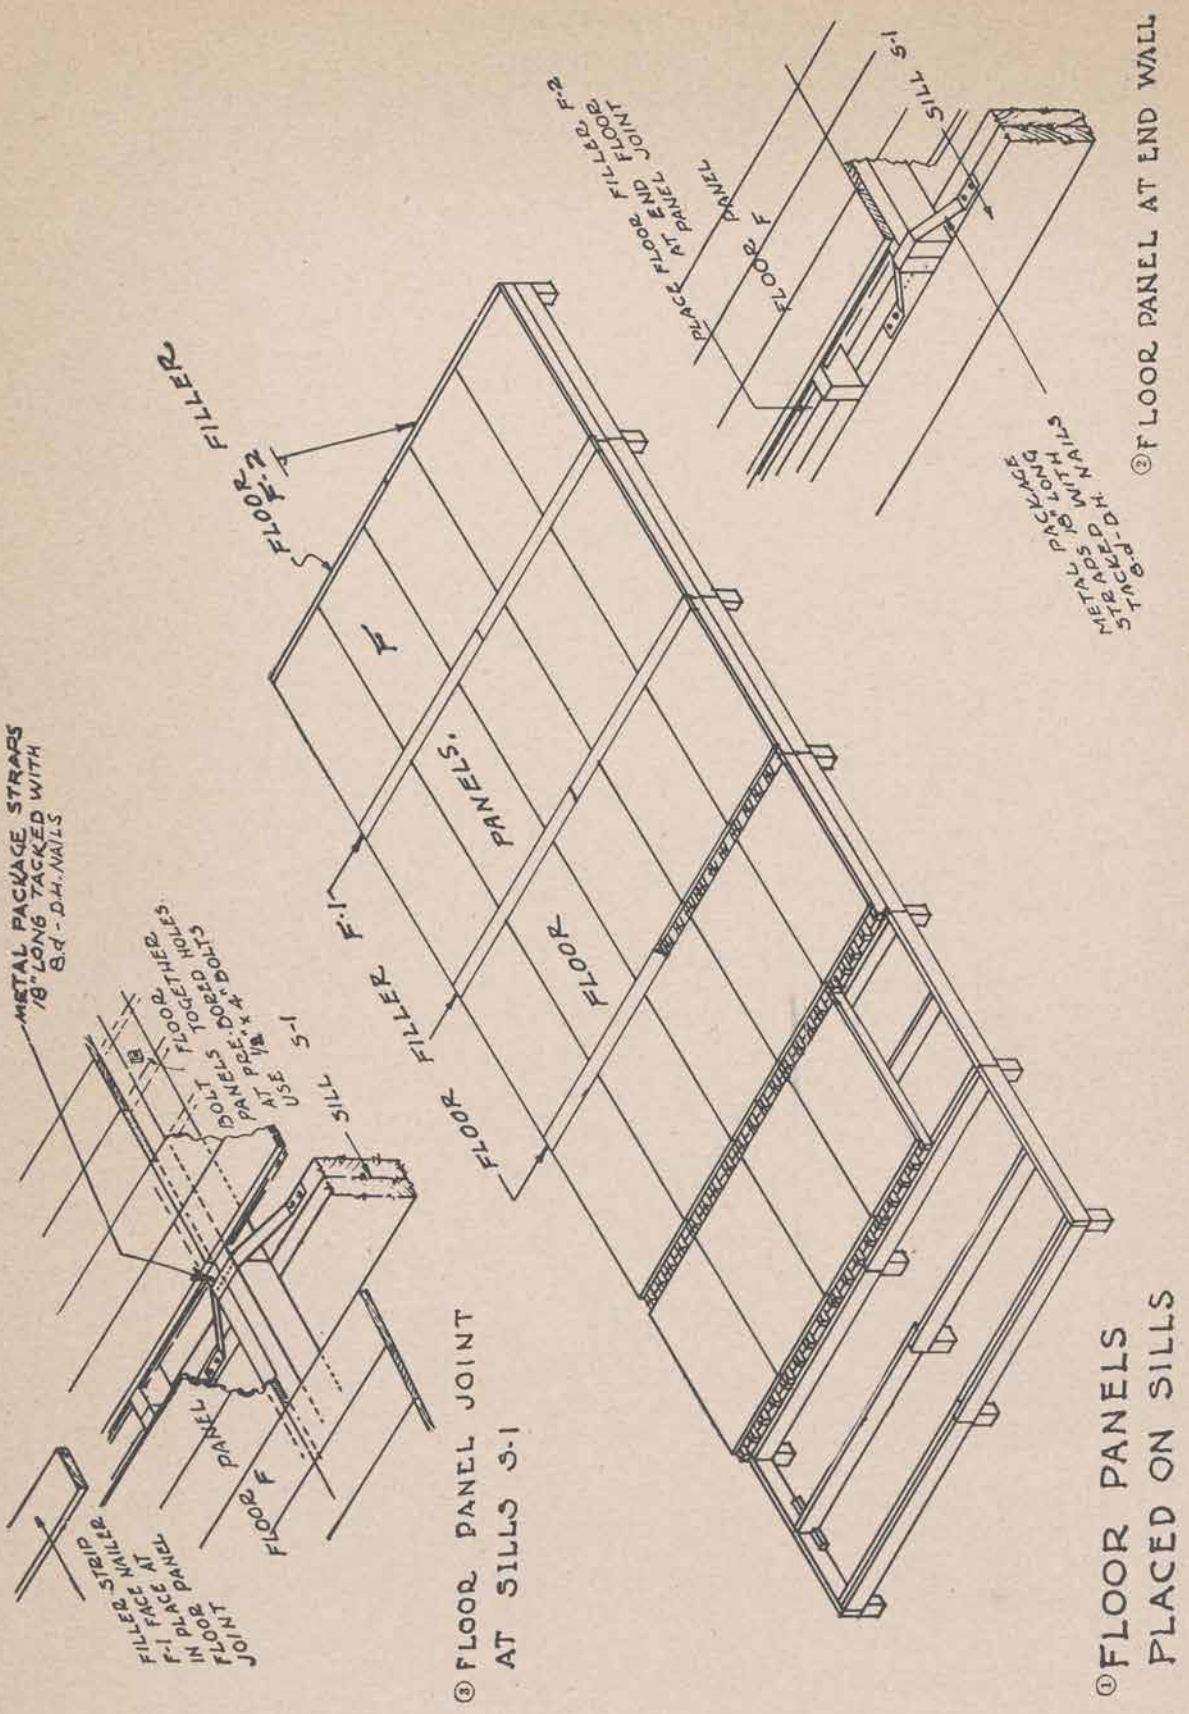

Figure 8. Floor panels.
4. Floor (refer to fig. 8)
a. Start placing floor panels across building, working from one corner of the building and extending full width of building. Bolt these sections together using 4-inch bolts with washers. After this 8- by 20-foot section has been bolted together, shift section in place. The sides of the section must be flush with the sills. The ends of the floor joists must be flush with end sills and lap over one-half of the center sill. Assemble additional floor sections. Shift into place so that the ends of the floor joists on the first section and ends of the floor joists on the second section meet. All other sections are assembled and placed in same manner. Tie floor to sills by using metal crating band as is shown on figure 8① and ②.
② Posts set up.
① Location of foundation posts.